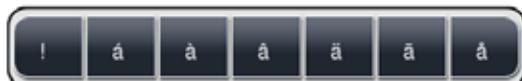

Fig. 23
- Example: Holding the standard "a" button brings up other selection options (→ "Fig. 23").